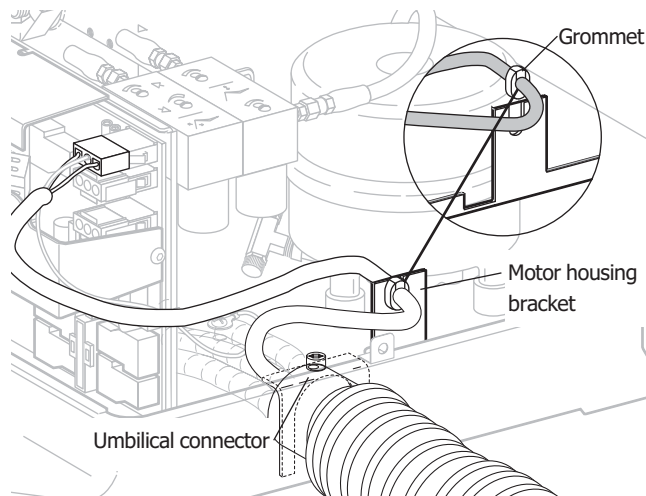

Figure 9
- Wrap the grommet around the chair power cord. Squeeze the grommet to close and insert it into the motor housing (see Figure 9).